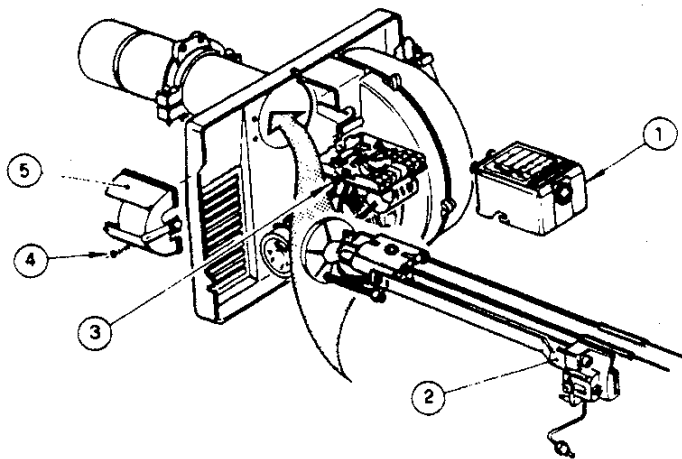

Figure 16: Installation/Removal of Riello Drawer Assembly
- Installation/Removal of Drawer Assembly**, refer to Figure 16.
- Loosen SCREW (3), and then unplug PRIMARY CONTROL (1) by carefully pulling it back and then up.